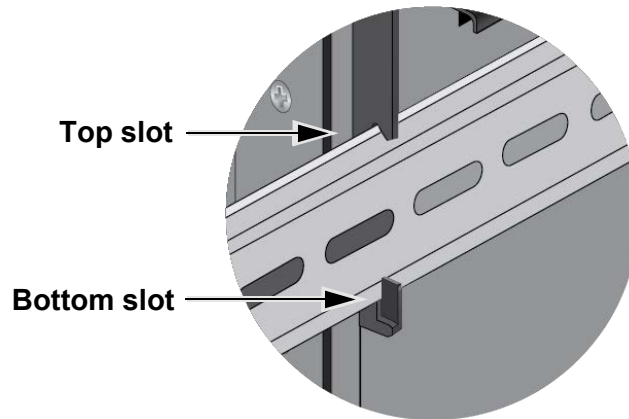

Figure 16. Verifying the DIN Rail Installation
2. Visually inspect the bracket to verify that the DIN rail is now fitted into the top and bottom slots of the bracket, on both the left and right sides. Refer to Figure 16.